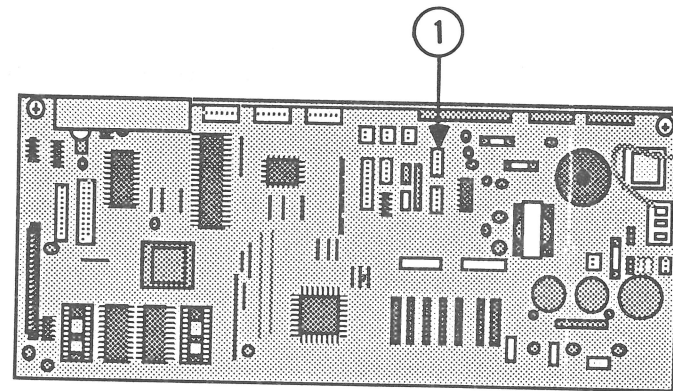

FIGURE 42
5. Disconnect the carrier motor cable from main board connector CN5 (Figure 42, #1).